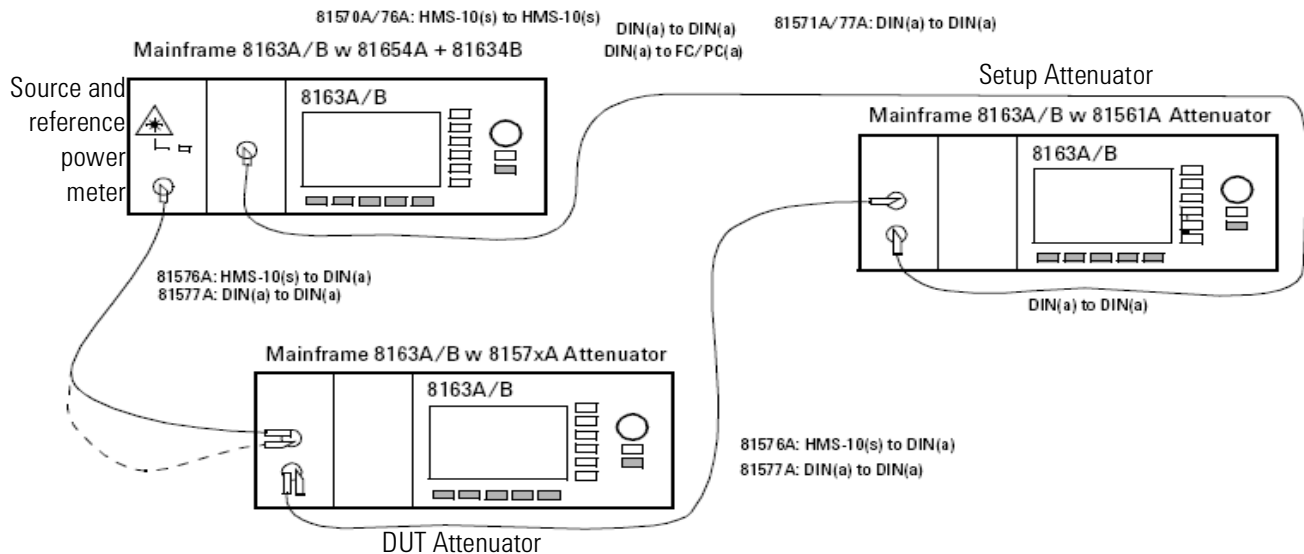

Figure 16 Relative Power Meter uncertainty Setup for SM attenuators
- 4** Connect the equipment as shown below in Figure 16.